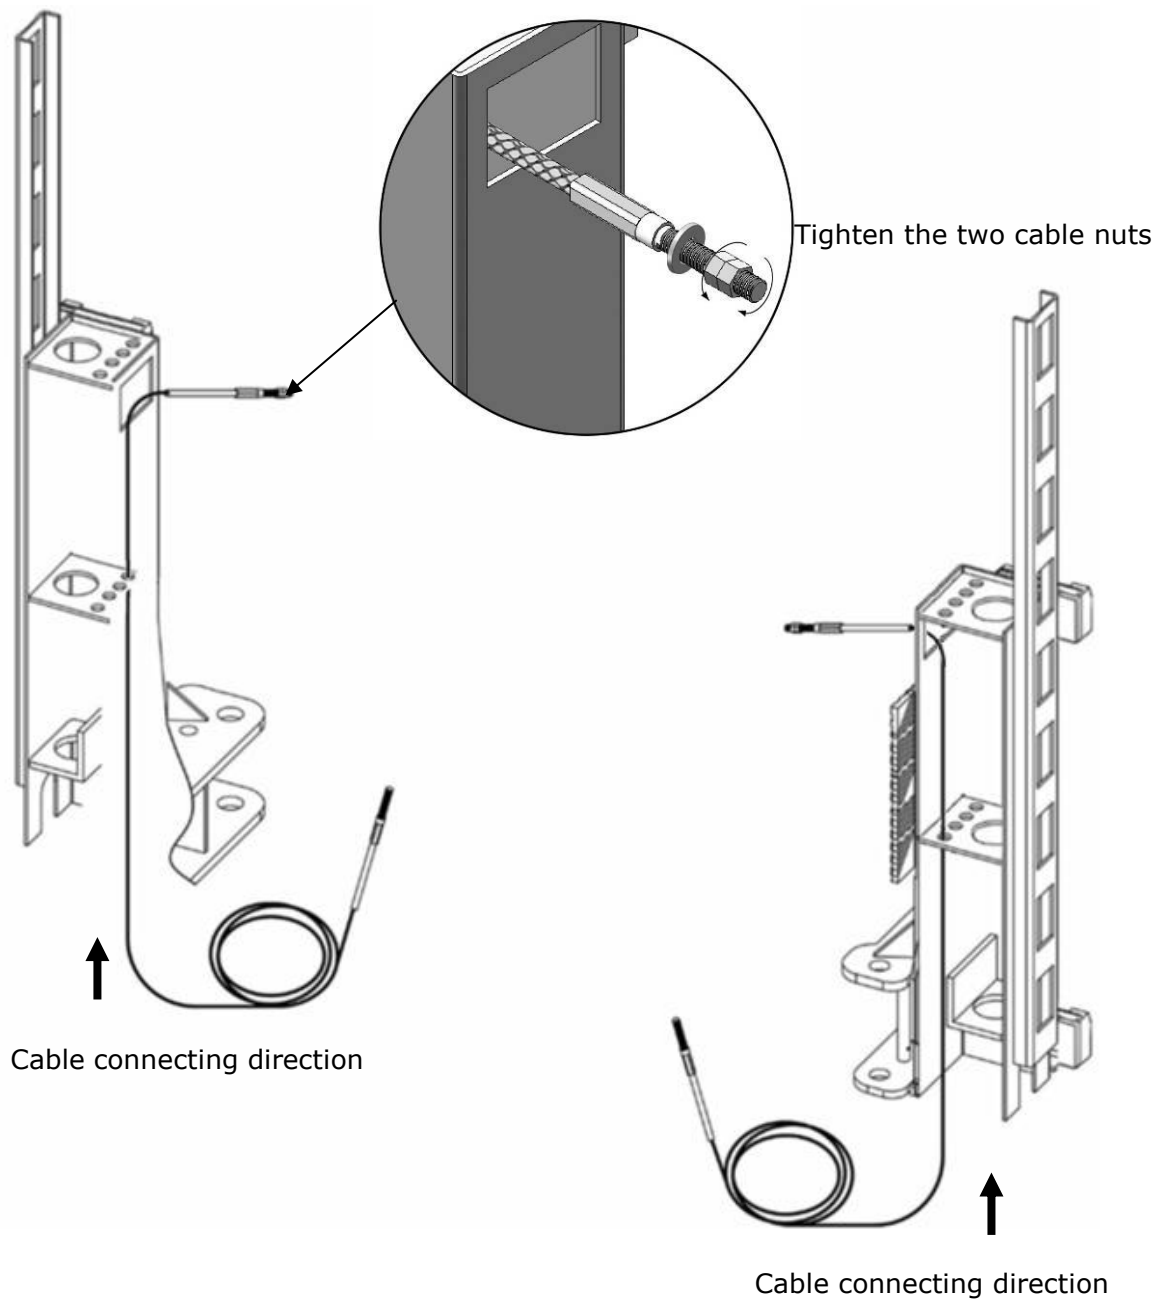

Fig.28
- 1.1 Remove the carriages plastic cover, sync cable across from the bottom of the carriages and pull it out from the hole of carriage, then tighten two cable nuts. (See Fig. 28)